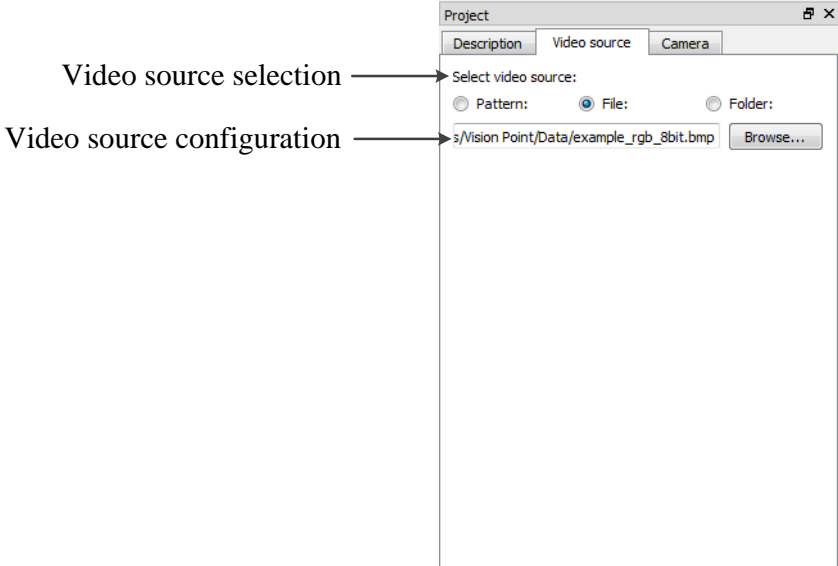

Figure 5 : Video source project navigator tab
- 2. A Video source tab is used to specify a video source for the current project as shown in Figure 5.